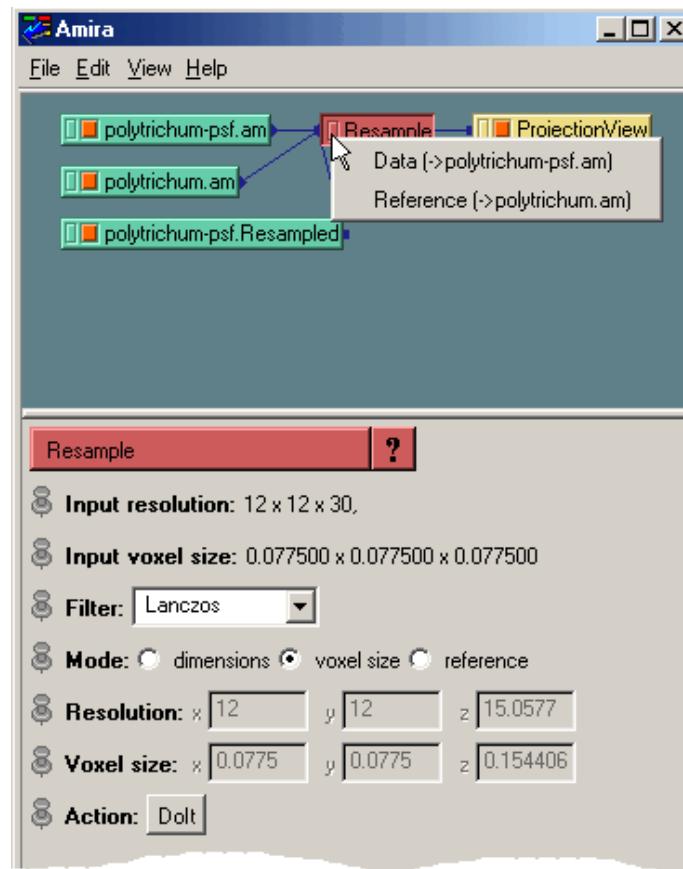

Figure 1.2: Resampling a PSF using the *Resample* module.
- In the *Mode* port of the *Resample* module, choose *voxel size* (see Figure 1.2).